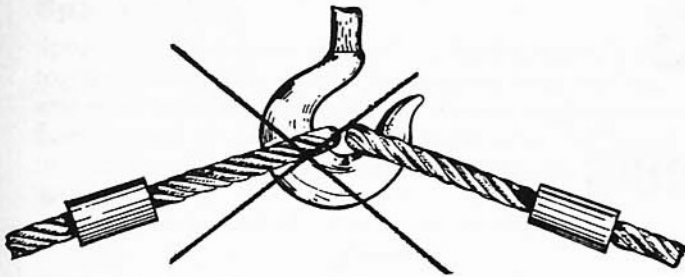

Figure 30 Bad loading on hook slings
- Overload hooks as in Figure 30. Decrease the angle.